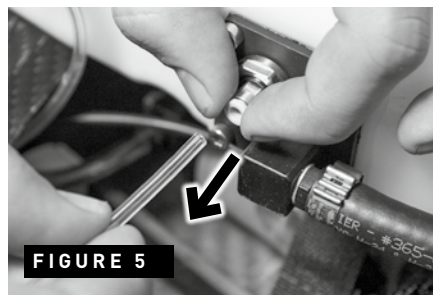

FIGURE 5
5) When a mode has been selected, press the green button START. The charger will beep and the battery charging will start. The charging progress is displayed on the screen – FIGURE 5.
5) Disconnect the hose on the other side of the tank – FIGURE 5 leading to the suction hose.